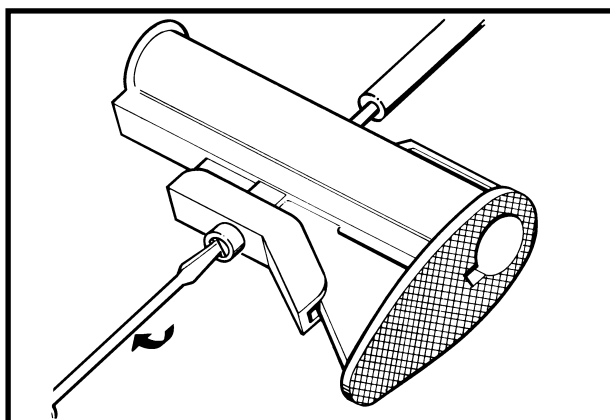

Figure 3-2-59 Unscrewing the Release Lever Lock Pin
- b. Insert a suitable punch through the hole on top of the sliding buttstock, to control the release lever lock pin spring, and unscrew the release lever lock pin from the lock pin nut. See Figure 3-2-59;